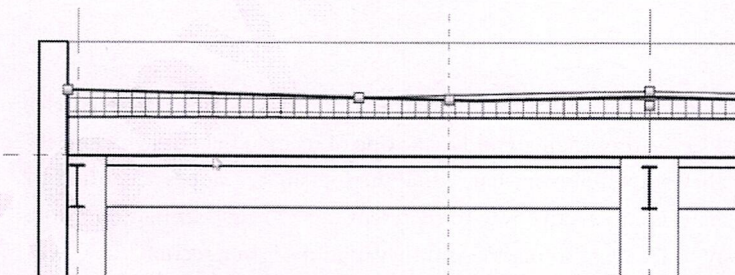

FIGURE 9.60 Move the roof element down with a negative offset from the level
6. Select the roof, and on the Properties palette, in the "Base Offset From Level" field, type: **-1'-4" [-400]** (see Figure 9.60).